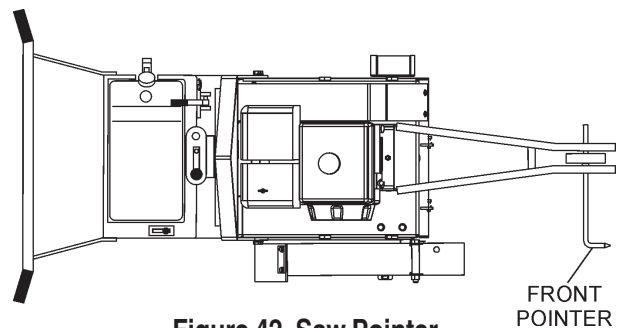

Figure 42. Saw Pointer
1. The SP2 saw employs a front pointer (Figure 42) that has been precisely aligned with the diamond blade at the factory. Referencing the figure below, accurate tracking is accomplished by referencing the front pointer tip over the cut line. Precise saw direction is accomplished by slight operator pressure against the handle bars.